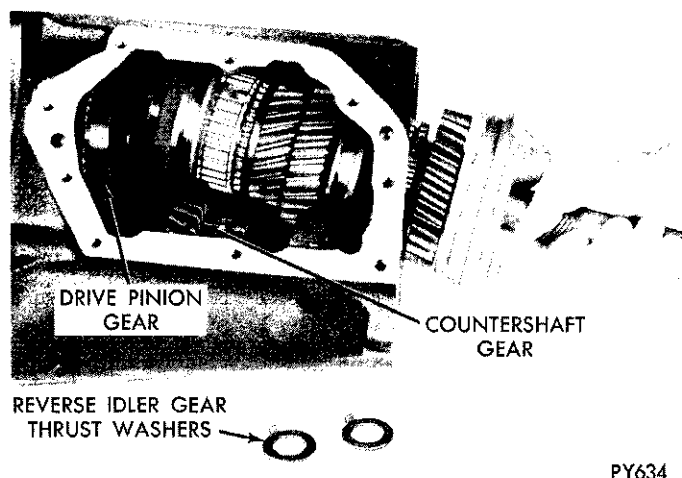

Fig. 8—Mainshaft Assembly—Removal or Installation
(2) Remove idler gear with arbor in place to retain rollers.
(3) Remove both thrust washers (Fig. 8).
(4) Grasp mainshaft assembly and remove through rear of case (Fig. 8).